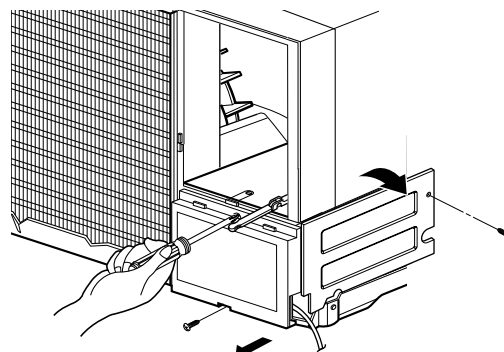

Figure 19
8. Remove the 2 screws which fasten the control box. (See Figure 19)
10. Re-install the components by referring to the removal procedure, above. (See Figure 19)